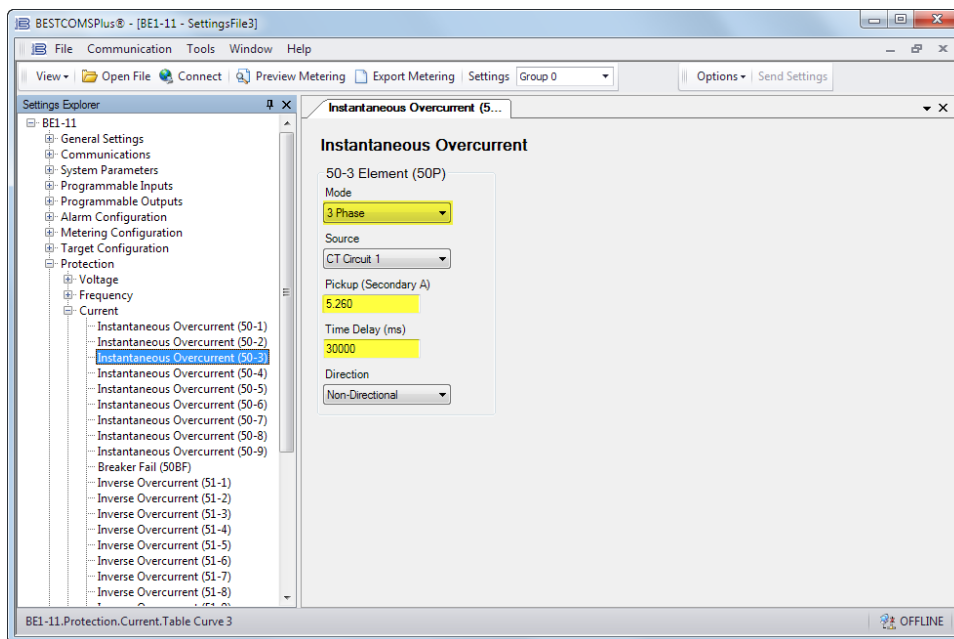

Figure 2-11. Instantaneous Overcurrent (50-3) Screen
- Step 7: In the Settings Explorer, expand Protection, Current and select the Instantaneous Overcurrent (50-3) screen. See Figure 2-11.